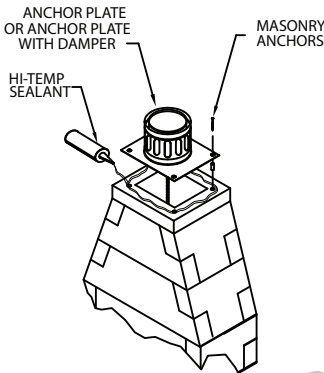

Figure 2
accordingly. Center the Anchor Plate over the masonry flue opening. If a Damper is used, make sure nothing interferes with the damper plate movement. Seal the Anchor Plate in place with a high-temperature sealant. Secure Anchor Plate with four (4) 2" x 1/4" masonry anchors (**Fig. 2**).